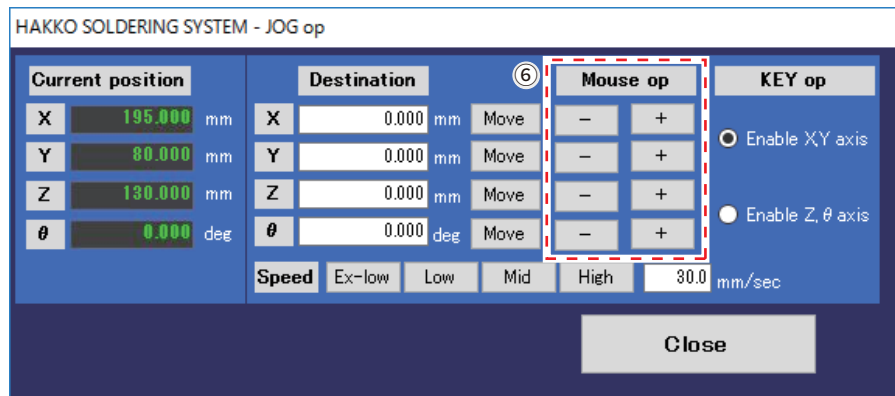

Fig. 7-118
⑤ Open JOG operation screen (See Fig. 7-118).